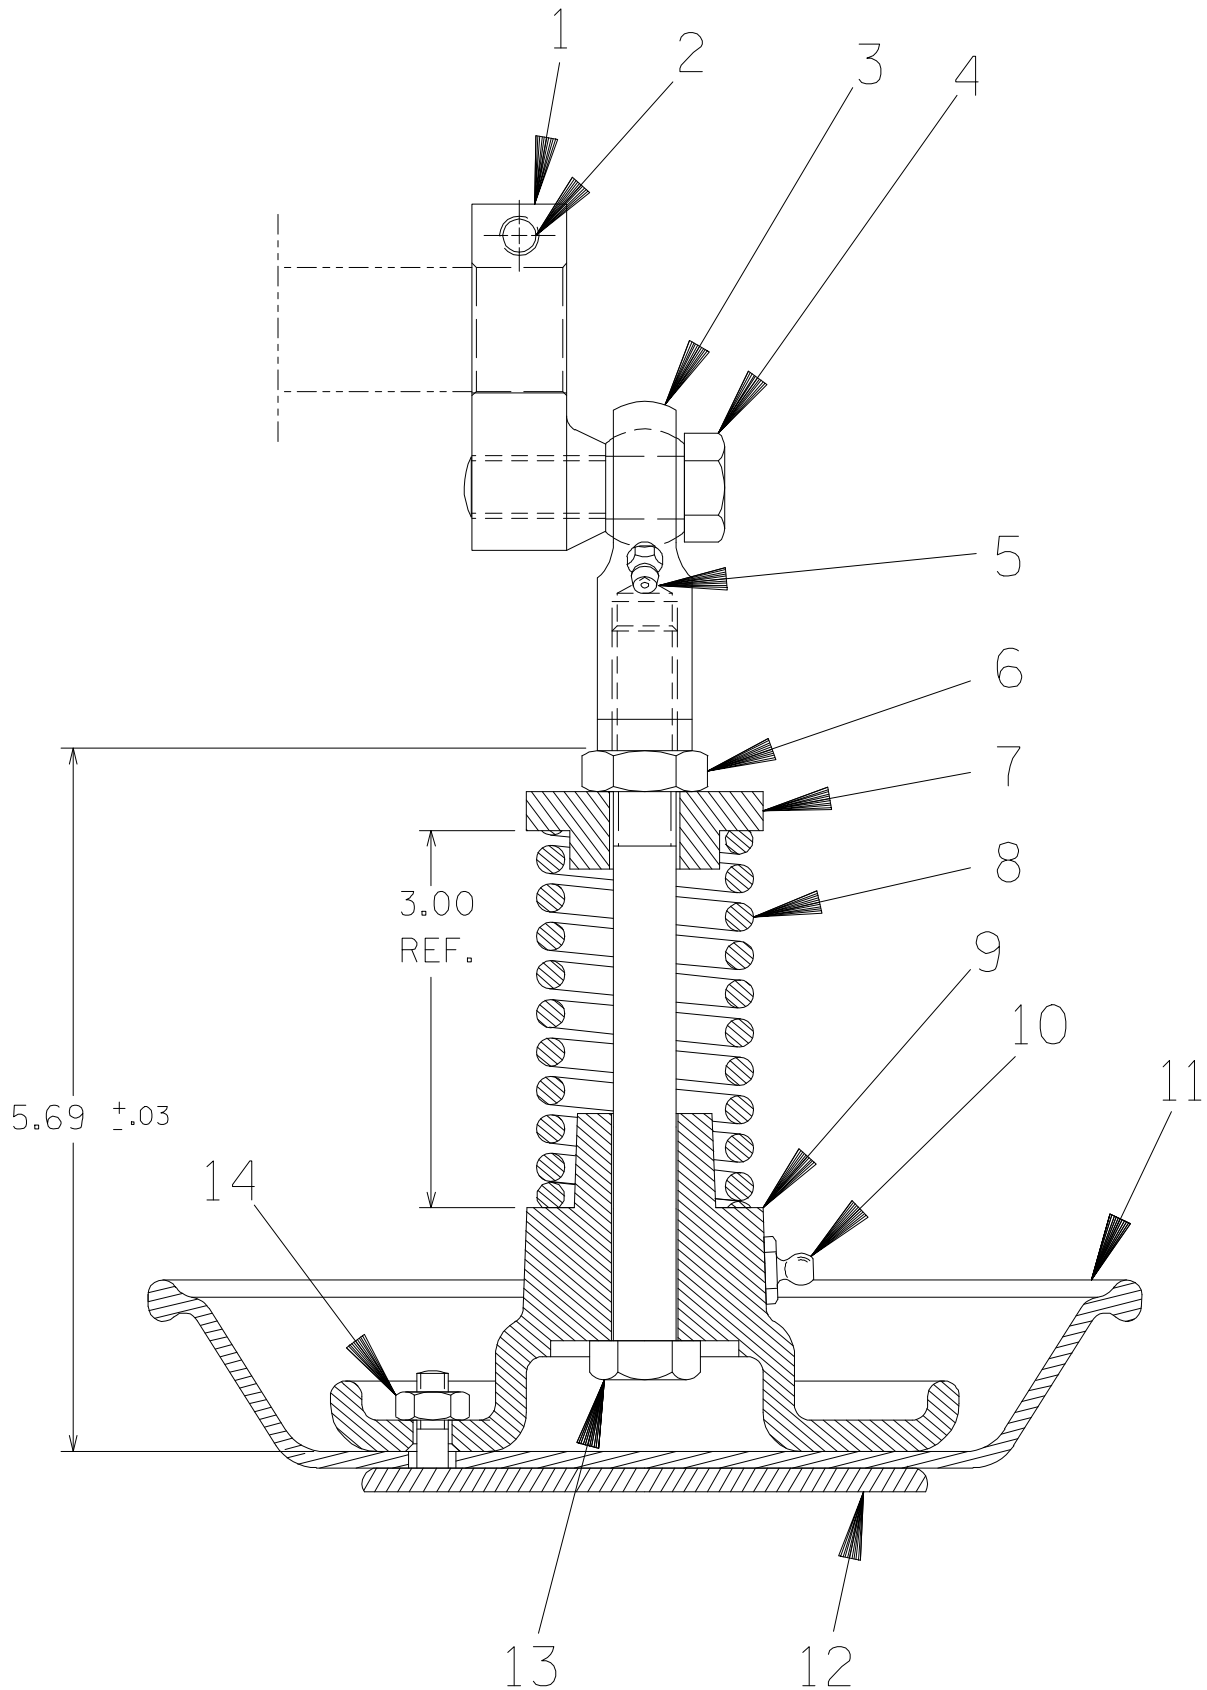

Figure 2. 46181-004 Plunger Rod Assembly
Before attempting to service the pump, drain the pump by removing the drain plug (18, Figure 2). Clean and reinstall the drain plug.
Before attempting to remove the diaphragm (11, Figure 2), rotate the motor shaft until the eccentric (1, Figure 2) is at the top of its stroke and the spring (8, Figure 2) is decompressed.
(Figure 2)
Slide the plunger rod (13) through the diaphragm plate (9). Install the spring (8), spring centering washer (7) and jam nut (6). Compress the spring to the dimension shown in Figure 2 by tightening the jam nut.
Position the retainer ring (11) over the diaphragm. Position the diaphragm and plunger rod in the diaphragm pot (24) with the grease fitting (10, Figure 2) facing away from the gear reducer (7).